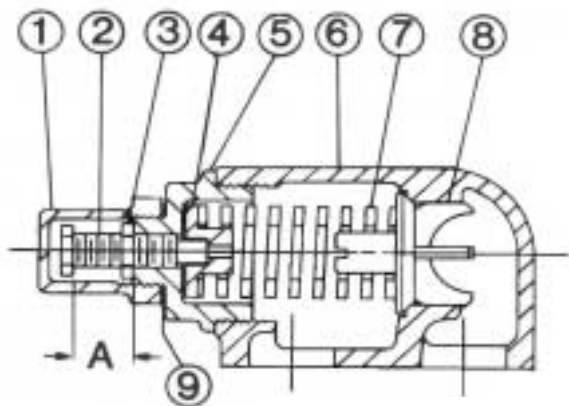

FIGURE 12
2. Measure and record length of extension of adjusting screw. **Refer to "A" on Figures 12,13 and 14.**